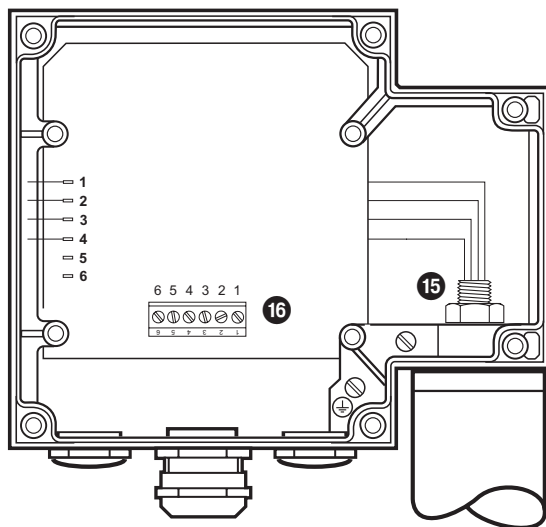

Fig. 11
2. Remove the cable lugs from the pins. **Fig. 11**
3. Slacken the nut **15** using a size 18 open-ended wrench. Do not unscrew completely! **Fig. 11**